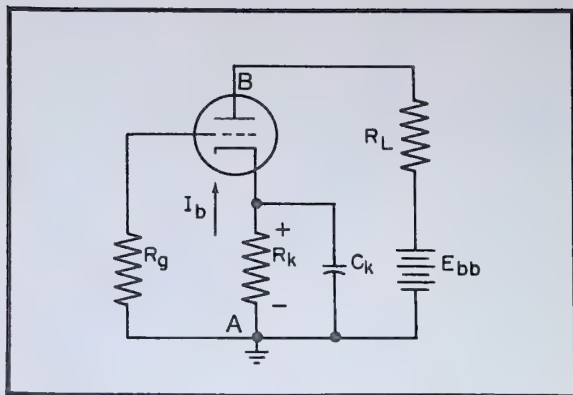

Fig. 10-16. Grid biasing system, cathode resistor.
**Cathode Resistor.** In this circuit (Fig. 10-16) the bias voltage is developed across cathode resistor  $R_k$ . Under *no-signal* conditions, plate current ( $i_b$ ) flows continuously from cathode to plate, then back to the cathode again through resistor  $R_k$ . Since plate current flows from point A to point B, point A is negative with